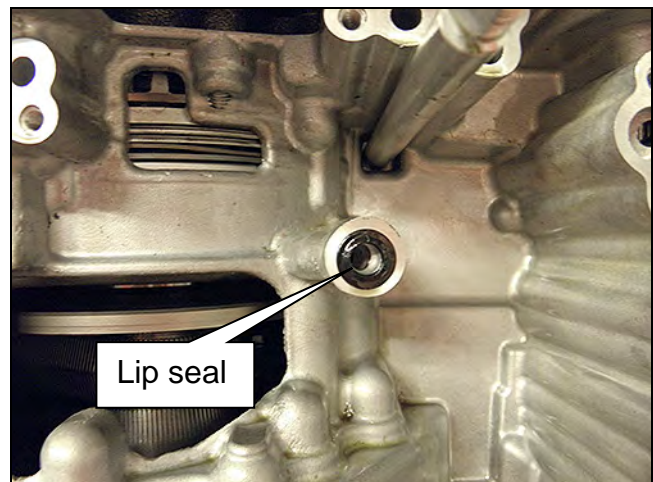

Figure 2A
1. Install a new lip seal (Figure 2A).